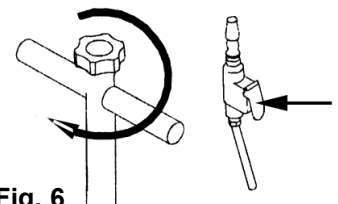

Fig. 6
3.4.1 Connect the air control valve to the air supply. Remove the oil filter plug. Operate the jack by pressing the air control valve to pump the jack to its maximum height. Refer to Fig. 6.
- 4.1.1 Close the release knob. Refer to Fig. 6.